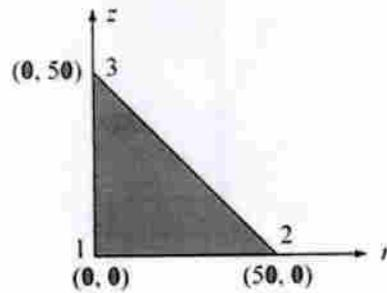

Figure 5
13. B). For the axisymmetric element shown in figure 5. Determine the element stiffness matrix. 10M